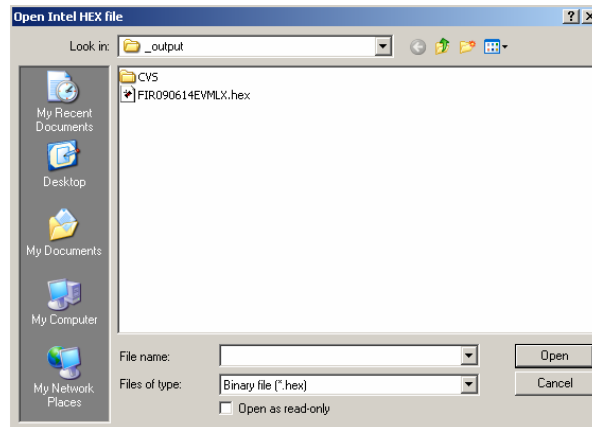

Fig. 5.24
4. Click Yes and in a new browse window to find the firmware file will appear, select the correct file and click button Open (Fig. 5.24).